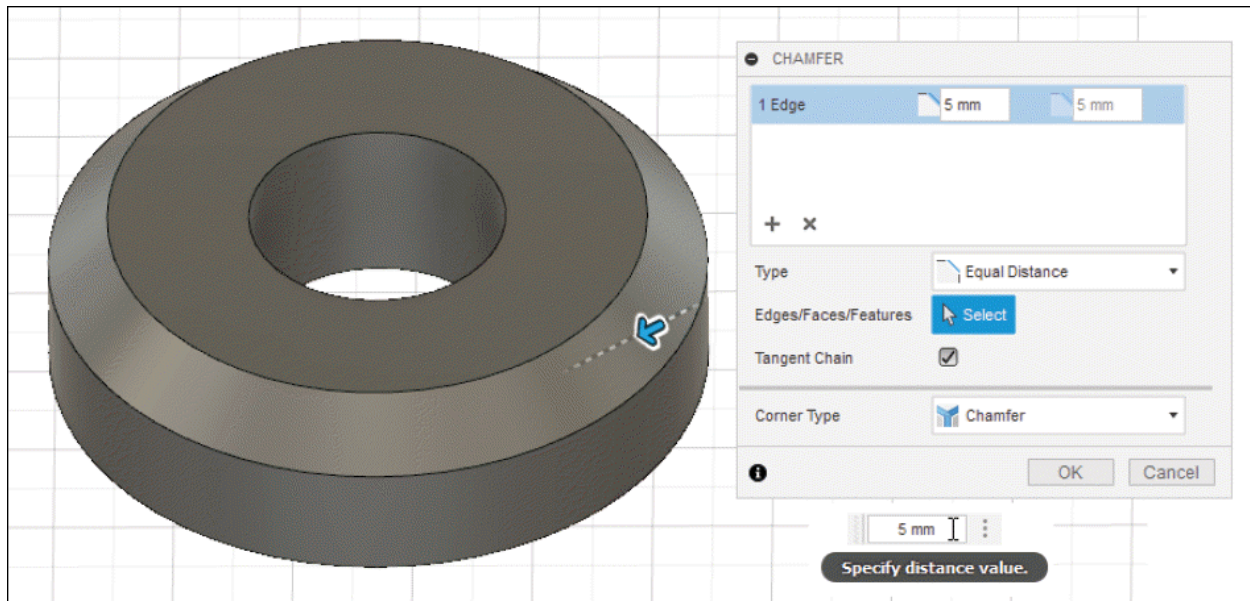

Figure-23. Preview of chamfer
- Click in the **Specify distance value** edit box and enter desired value for distance for chamfer. The preview of chamfer will be displayed; refer to Figure-23.